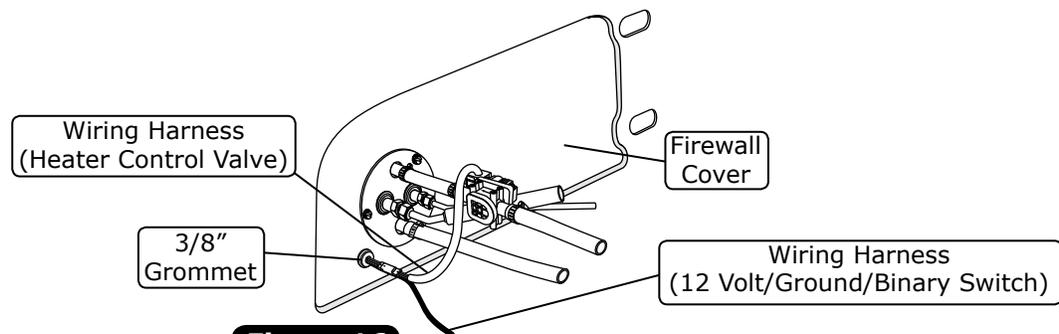

Figure 16
2. Route the A/C wires (12 volt/ground/binary switch/heater control valve) through the 3/8" grommet (See Figure 16, below).